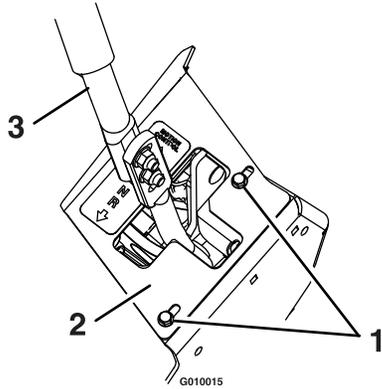

Figure 35
1. Loosen the screws on a cover plate (see Figure 35).